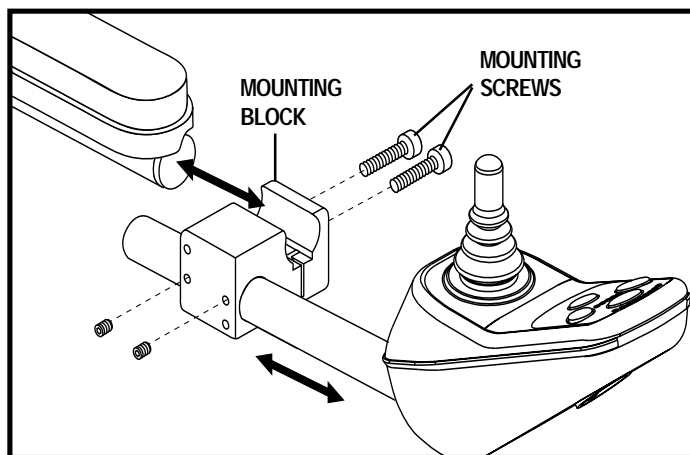

Figure 20. Mounting Block Controller Installation
**NOTE:** If your power chair is equipped with a Specialty Seat, Synergy Seat, or TRU-Balance Power Positioning System, loosen the setscrews in the mounting block, slide the controller in or out to the desired position, then tighten the setscrews. See figure 20.
**NOTE:** If your power chair is equipped with a Specialty Seat, Synergy Seat, or TRU-Balance Power Positioning System, loosen the mounting screws in the mounting block, transfer the mounting block and controller to the opposite armrest, and tighten the mounting screws. See figure 20.